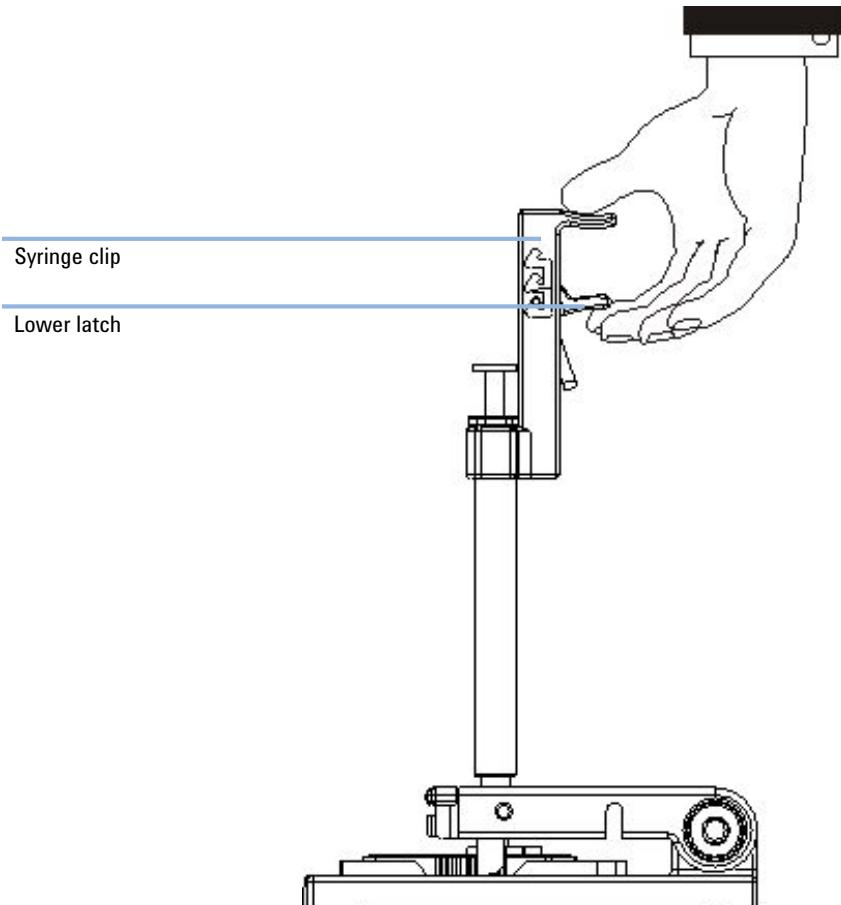

Figure 9 Releasing the plunger from the syringe
- 6 Wait for 5 seconds and lower latch of the clip to release the plunger as shown in Figure 9 on page 140.